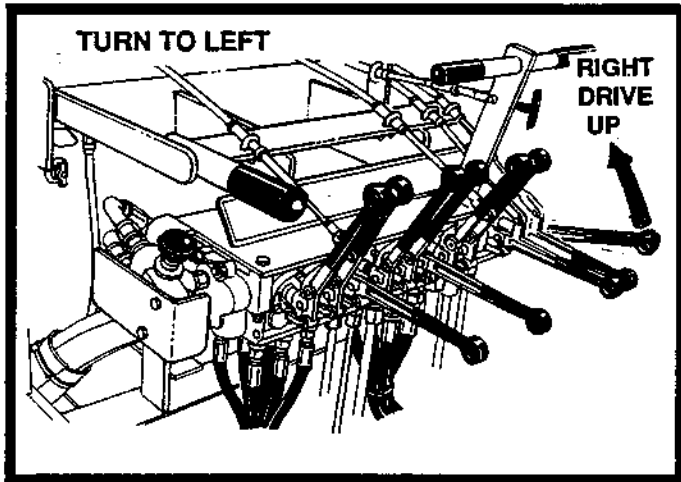

FIGURE 4
- Depending on the direction of travel, turning the paver can be accomplished by pushing or pulling the steering lever on the inside of the turn toward the neutral position. See figure 4.